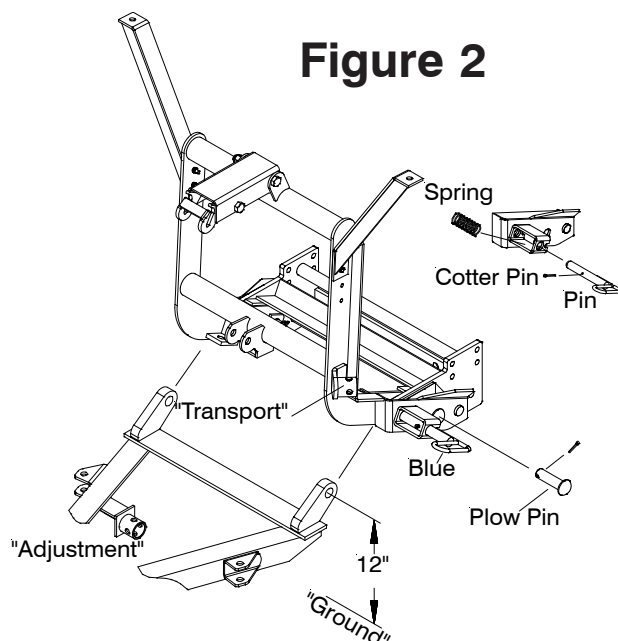

Figure 2
- A. Assemble clevis frame (1) to vehicle per separate Mounting Carton Instructions.
- B. Assemble Blue Handle Pin (4) to lift frame (22) by inserting the Blue Handle Pin (4) through the outer lift frame plates, through the center of the spring (8). At this time align the small blue leg on the handle through the notch on the outermost plate. Compress the spring (8) slightly with your fingers and insert the 3/16" x 1-1/2" Cotter Pin (13) through the small hole towards the center of the pin. With cotter pin (13) fully inserted, pull the blue handle until the spring is fully compressed and rotate the handle one full turn to bend the cotter pin in place. Realign the small blue leg with the notch on the outermost plate to lock in place. Repeat assembly process (as per figure 2 & 3) until both pins are assembled. **Note: Lubricate the stainless steel pins and Lift Frame bearing surfaces with chassis grease or anti-seize lubricant periodically for easier disengagement of pins.**
- I. To store Crankstand (6) on the Lift Frame (22) slide the tube that is attached to the side of the Crankstand (6) over the transport tube on the driver's side of the Lift Frame. Insert the chained locking pin through the vertical holes on both the tubes. **Note: Crankstand (6) should always be fully retracted (up) and be pinned in the vertical transport position when not in use.** Receiver Tube Cap (5) may be placed over the driver side transport tube while the Crankstand (6) is in use on the A-Frame. The Receiver Tube Cap (5) may also be switched over to the Adjustment Tube of the A-Frame when the Crankstand is mounted to the Lift Frame.
- J. Attach A-Frame to Lift Frame (22) by connecting Crankstand (6) to the adjustment tube in the center of the A-Frame. Insert the chained locking pin all the way through the vertical holes on both the tubes. Crank up A-Frame until the holes on the back ears of the A-Frame are about 12" off the ground per Figure 2. Pull truck up to the A-Frame/Moldboard assembly aligning the A-Frame ears between the two lift frame plates until contact is made with the Clevis Frame (1). Once you feel contact, push the moldboard assembly a few inches forward, this insures proper alignment so that the A-Frame is square to the Clevis Frame. Adjust the Crankstand up until the front of the truck raises slightly. Attach Lift Frame (22) to A-frame using 1" Dia Pin (21) and Cotter Pin (20). **Note:** If pins do not properly engage move the truck slightly forward a few more inches and/or adjust (raise or lower) the Crankstand until pins slide into place. If only one pin should engage, retract the stand to the full upright position. Remove the Crankstand from the A-frame by removing the chained locking pin. Reattach the Crankstand to the transport tube on the driver's side of the Lift Frame in the vertical transport position. Attach lift chain as per paragraph "K" below. Raise the plow with the hydraulics and swing the moldboard slightly left or right until the pin will slide into place.